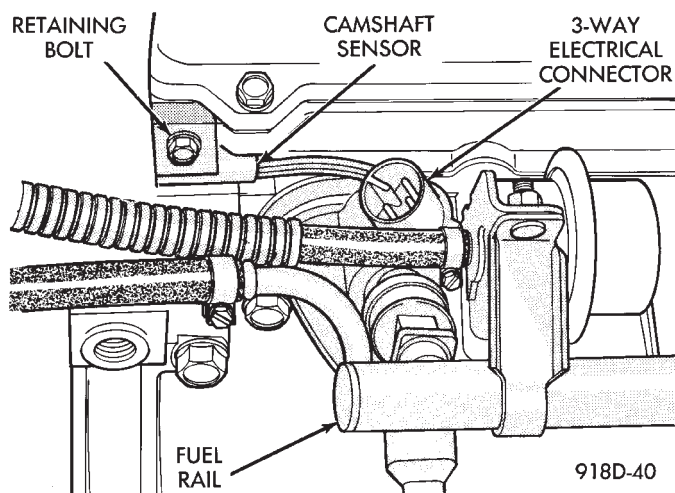

Fig. 11 Camshaft Sensor Location—Turbo III Engines
(1) Disconnect cam reference sensor lead at wiring harness connector (Fig. 11).